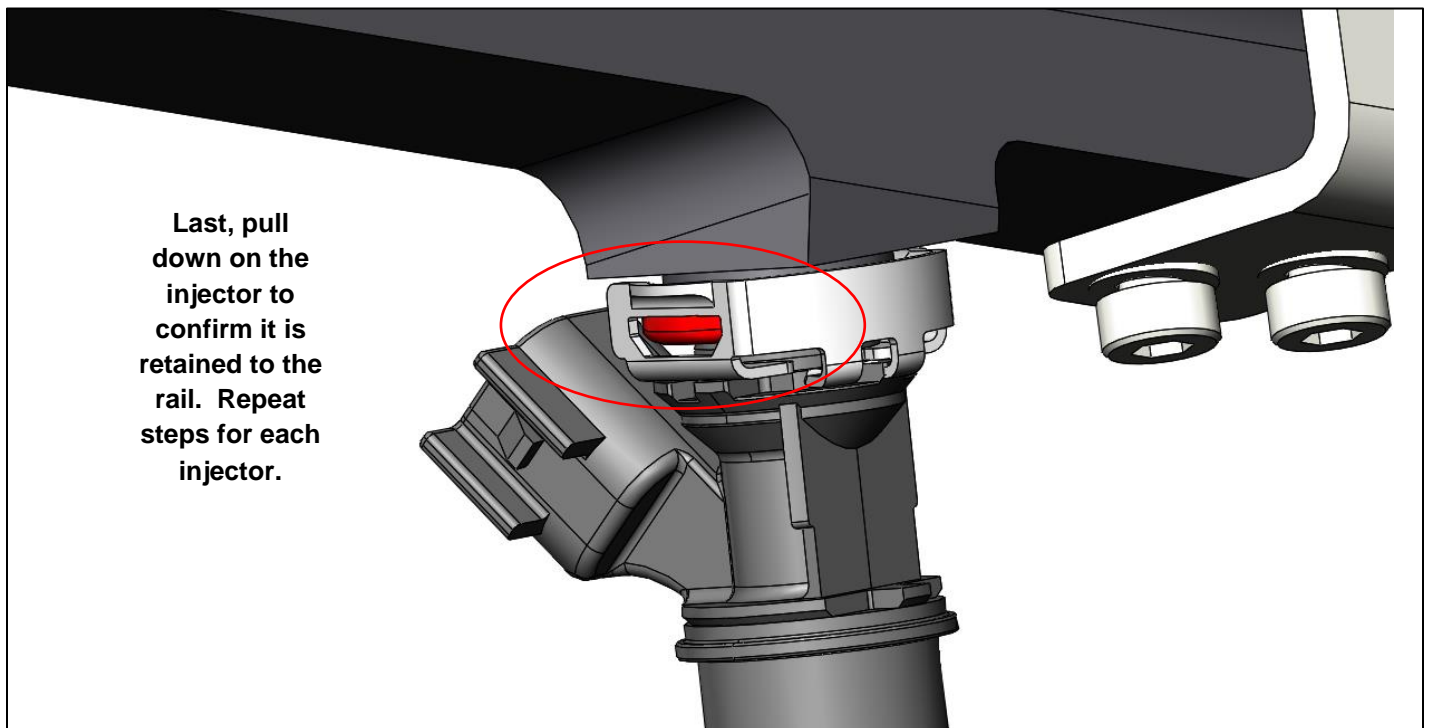

Figure 4
16. Confirm each clip is fully locked to the rail by visually inspecting the window on the sides of the clips. Then firmly pull down on the injector ensuring they will not pull out (**Figure 4**).